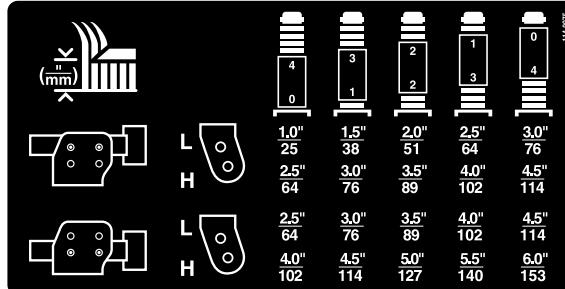

Figure 27
2. Position the castor wheel axles in the same holes in all castor forks. Refer to the chart (Figure 27) to